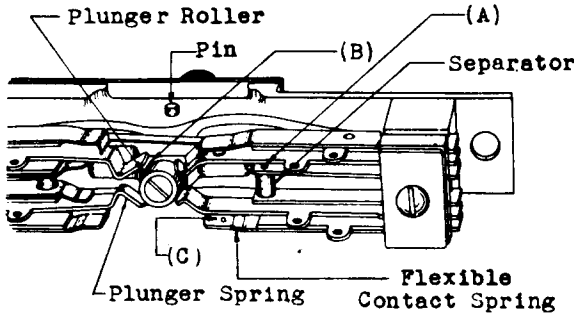
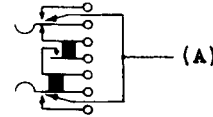

Fig. 2
Fig. 4
- \*2.03 Pressure of the Plunger Springs Against the Separator - Fig. 2 (A) -** The pressure of the plunger springs against the separator shall be:
- \*2.04 Position of the Plunger Springs Against the Plunger Roller - Fig. 2 (B)**
- \*2.05 Clearance Between the Plunger Springs and the Plunger Roller - Fig. 2 (B) -** When the plunger roller is resting without pressure against the opposite pair of springs or the cam stop is resting against the key frame, the clearance between the plunger springs and the plunger roller shall be:
- \*2.07 Contact Separation - Fig. 2 (C) and Fig. 4 (A) -** The separation between any pair of contacts normally open or between any pair of contacts that are opened when the key is operated shall be: